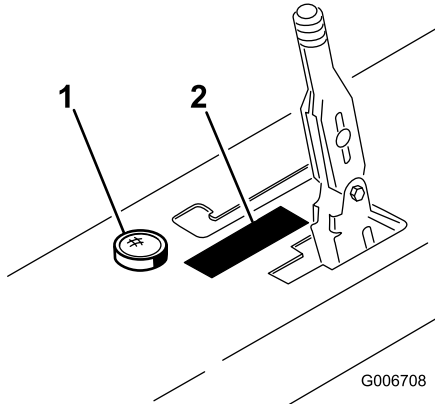

Figure 18
52. Affix circular level to top of console cover positioning as shown in Figure 18.
53. Affix operation decal to top of console cover positioning as shown in Figure 18.